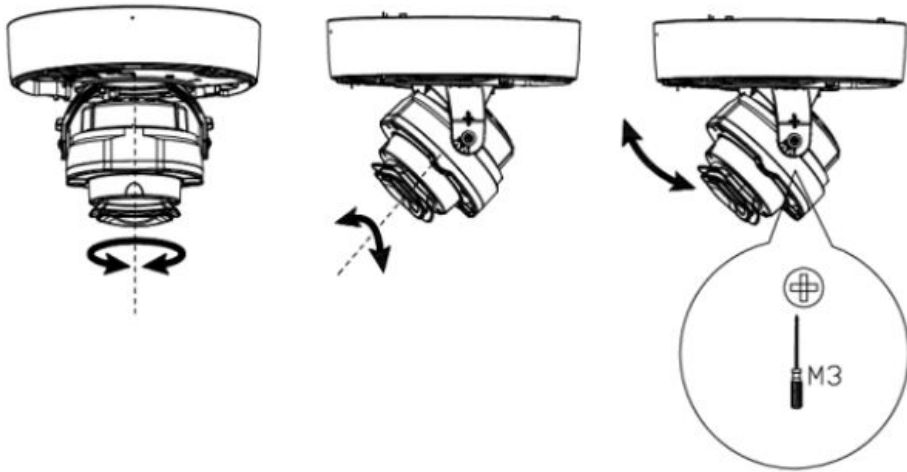

Figure 2-6
**Adjusting Lens Angle:** Use the supplied hex wrench to remove the dome cover. Rotate the camera as needed. Loosen the adjustment screw in the side to adjust angle up and down. Tighten down the adjustment screw when finished. See Figure 2-6.